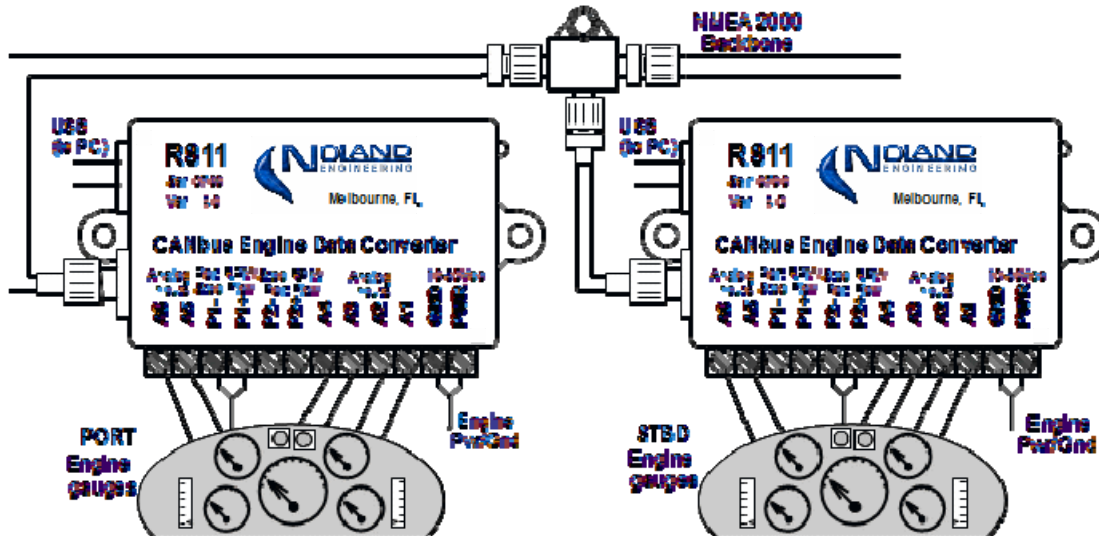

Figure 2. Twin RS11 Installation (dual engines)
- Figure 2 - Twin RS11 Installation Example
To get six analog inputs from each of two engines, you need two RS11's, one for "Port" instance and another for "Stbd" instance (see Figure 2). The RPM inputs are specifically assigned to Port and Starboard, whereas the analog inputs can be independently assigned to Port or Starboard, as desired. Note that the unused RPM inputs on each RS11 are available for 'Fuel flow' measurement from a flowmeter.